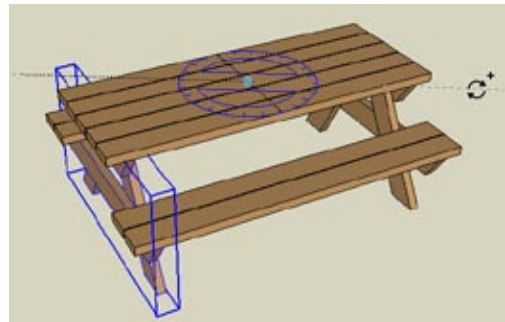

Figure 10-67
10. Select the table support and make a rotated copy of it 180 degrees away, using the center point of the temporary line as the center of rotation (Figure 10-67).